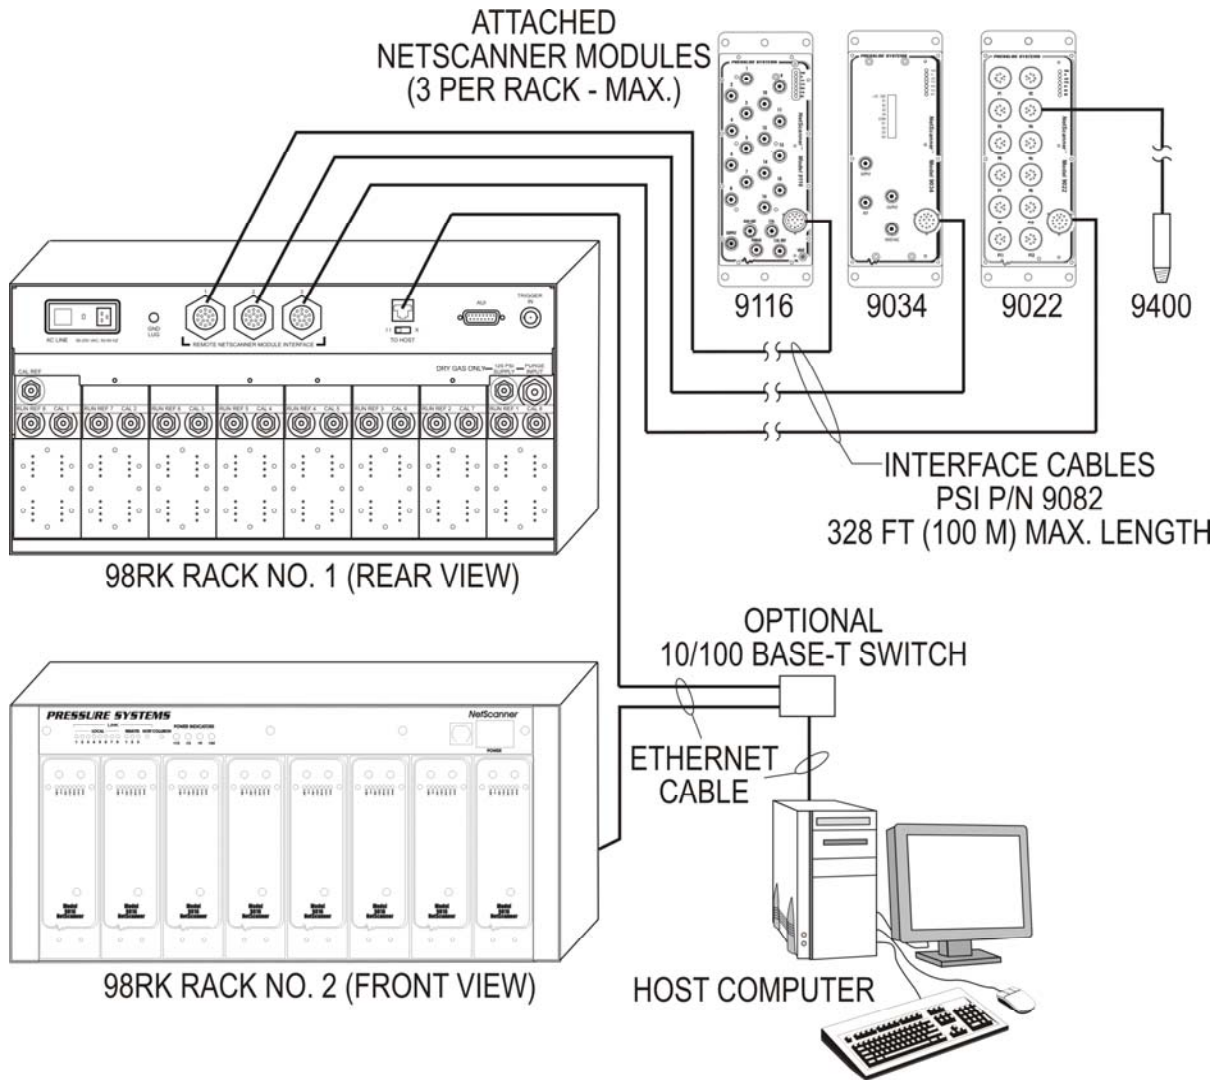

Figure 2.1
Figure 2.1 (on the next page) depicts a typical Pressure Systems' **NetScanner™ System** array. Although this figure depicts the front and back of two **98RK-1 Scanner Interface Racks**, multiple **98RK-1 Racks**, with up to eight (8) scanners per rack, may be networked together. Each chassis provides scanner power supplies and pneumatic connections as well as switch circuitry for up to eleven (11) 10/100Base-T connections, and a 10/100/1000Base-T (gigabit) host link. This enables each chassis to connect with the host computer as well as with up to three (3) additional scanners (and/or standard/ calibration units) which may be externally attached to each rack.
STEP 2 If you are connecting a Model 9016/9116, or 9021/9022 Intelligent Pressure Scanner, a Model 903x Intelligent Pressure Calibrator or Standard, or a 9046 Intelligent Temperature Scanner to the rear of your **98RK-1**, connect the ruggedized circular connector of the 9082 cable to your scanner's connector port. Connect the other end of the same cable to one of the ports on the rear of the **98RK-1** chassis labeled "Remote NetScanner Module Interface." (See **Figure 2.1**)